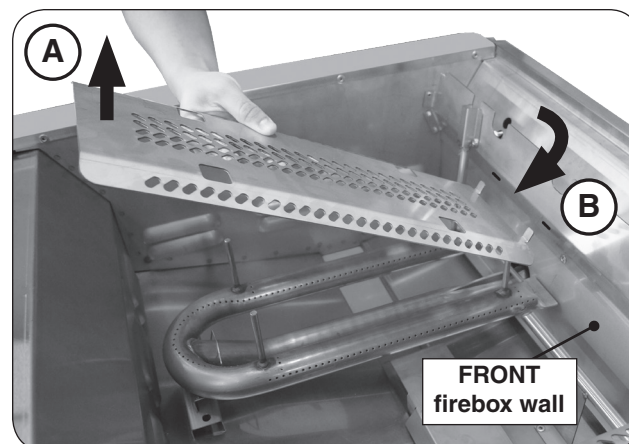

Fig. 32-4 Heat distribution grid(s) removal
2. Remove the grid(s) as shown in Fig. 32-4. Lift from the rear, and free the front tabs (on the grid) from the cutouts in the front firebox wall.